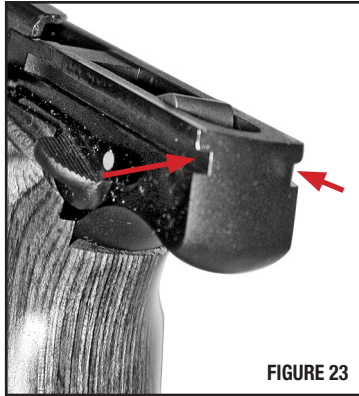

FIGURE 23
- There are two (2) lubrication points where a single drop of firearms lubricant should be applied. This will assure proper lubrication of your pistol. Care should be taken not to over-lubricate. Excess lubricant can collect large quantities of unburned powder and carbon residue, which could interfere with proper functioning of the pistol (FIGURE 23).